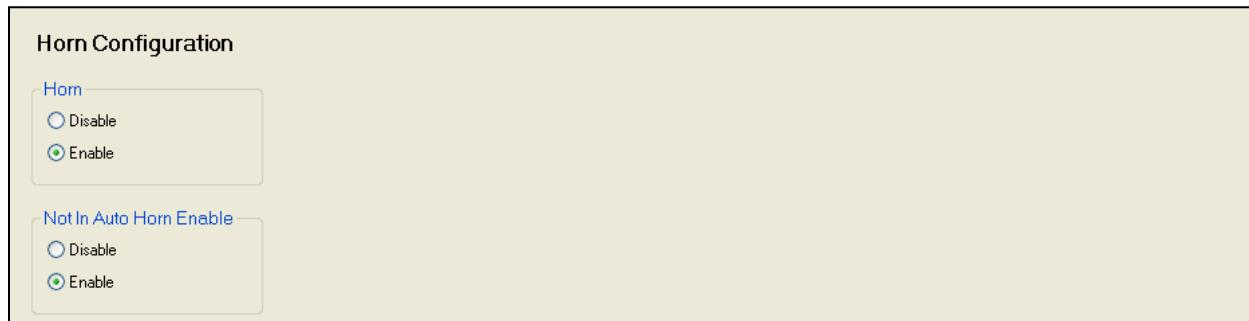

Figure 6-29. Settings Explorer, Alarm Configuration, Horn Configuration Screen
- a. Horn Configuration (Figure 6-29)